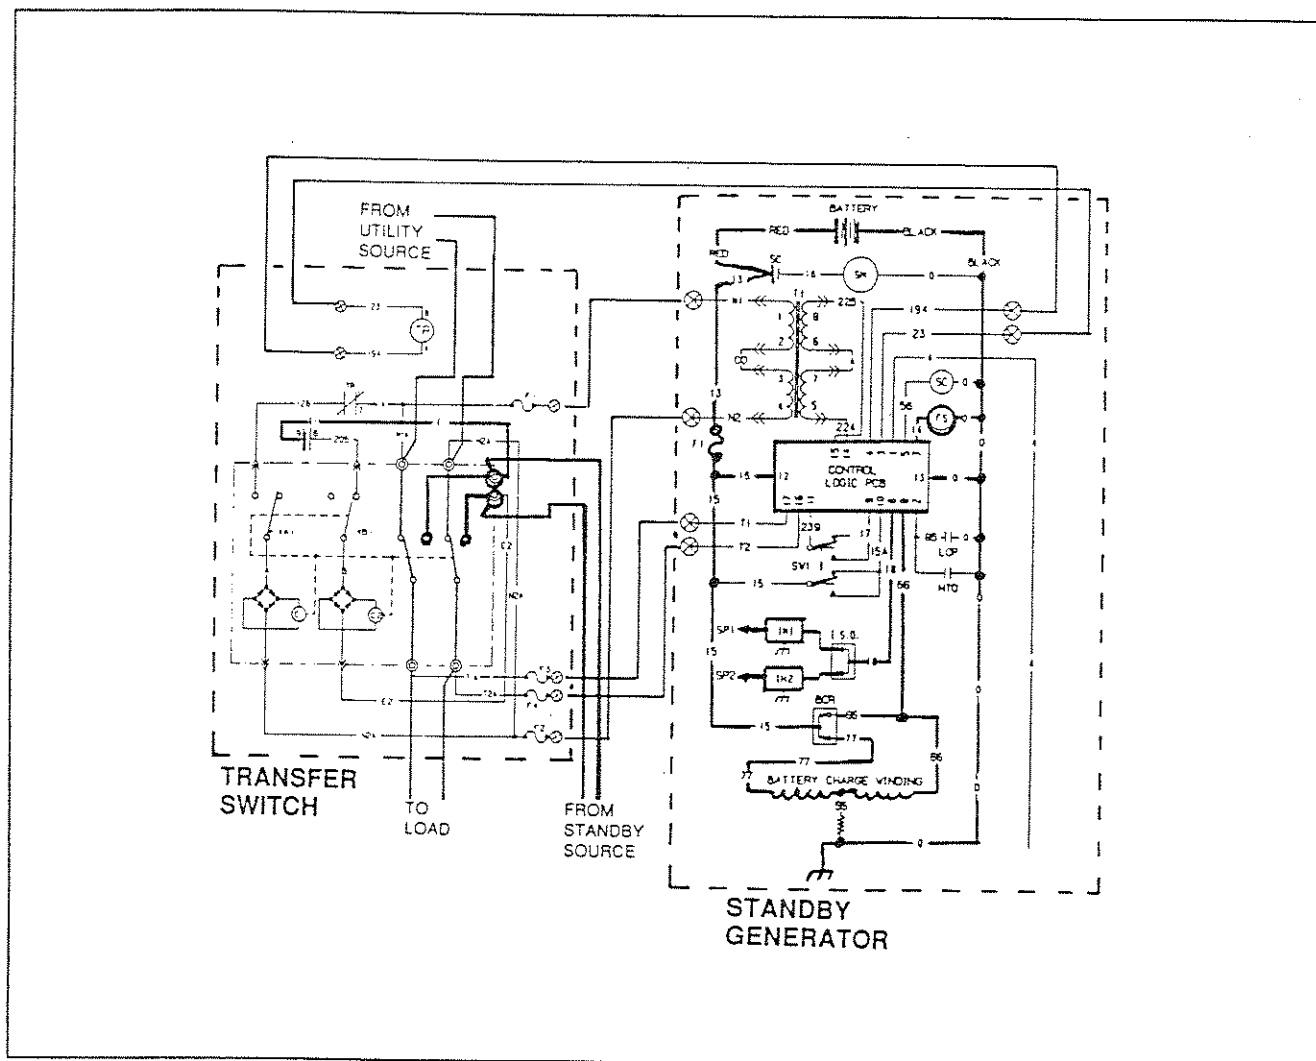

Figure 4. Circuit Condition- Engine Startup and Running
- The "engine warmup timer" will run for about 15 seconds. When this timer finishes timing, CMA board action will initiate transfer to the "Standby" power source. As shown in Figure 4 (below), the timer is still running and transfer has not yet occurred.